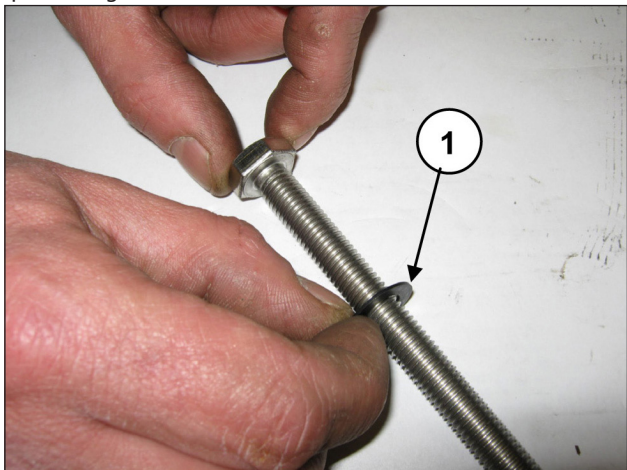

Fig. 136
Insert the Ø10x18x0.9 washer in the piston fixing screw (pos. ①, Fig. 136).